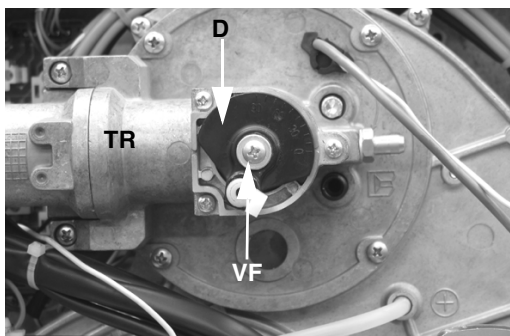

Fig. 21: Standard position
- 11 Rotate the disc **D** for 180 ° and then fit the screw **VF** (Fig. 21).